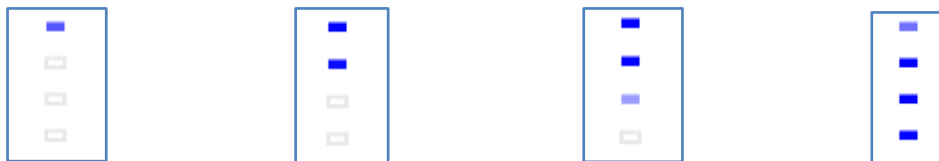

Figure 17 User LED status
- The User LEDs: LED4, LED5, LED6 and LED7 produce a cyclic pattern of glowing continuously. As shown in *Figure 17 User LED status*.